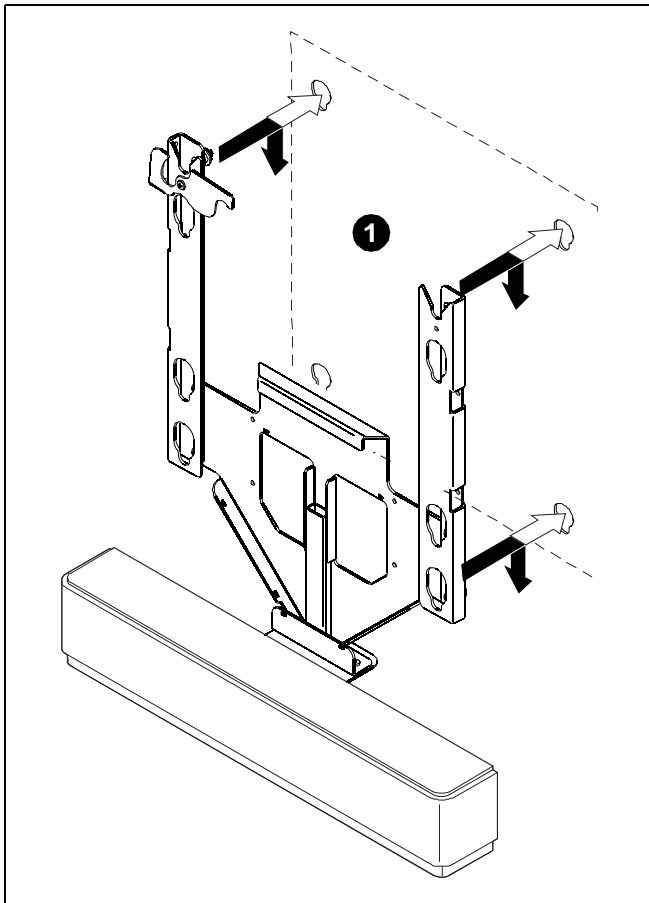

Figure 4
1. Install accessory to mount following the installation unstructions provided with the mount. (See Figure 4)